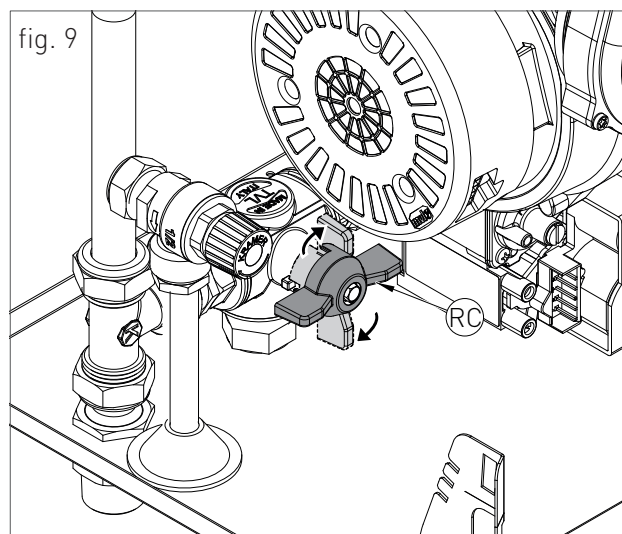

fig. 10
- › Activate the recirculation mode by simultaneously pressing the **R** and **-** buttons of the control panel (figure 10). The activation of the recirculation mode is displayed on the control panel as indicated by the **RC** symbol.